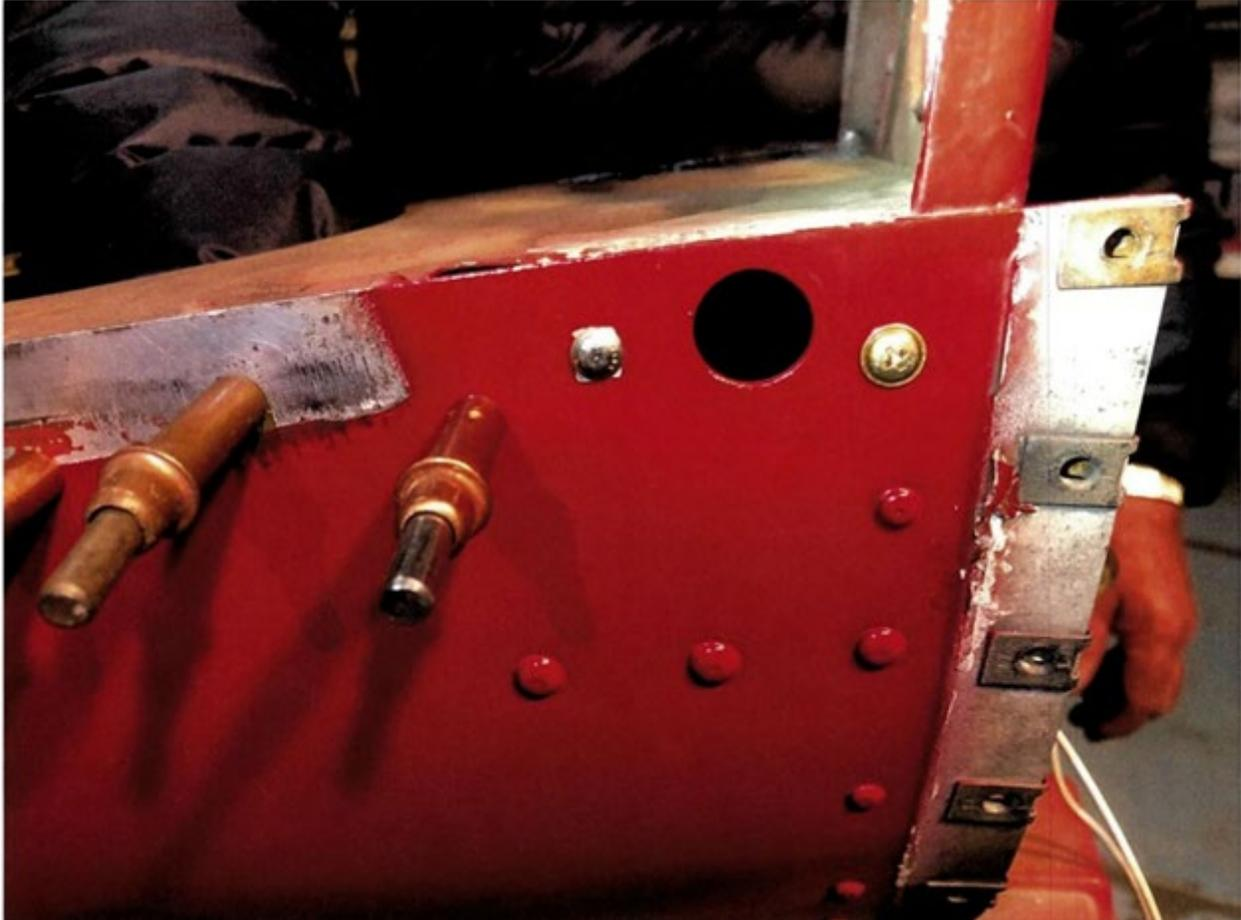

Figure 27: View after AN525-832R8 bolt and MS20470AD5-7 rivet installed
14. Your aircraft should now look like Figure 27.